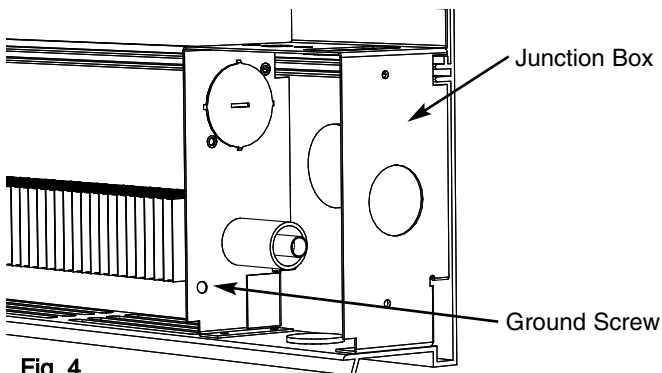

Fig. 4
- Following the wiring diagram secured to the heater, make electrical connections. Ground the heater using the ground screw provided. See Fig. 4.